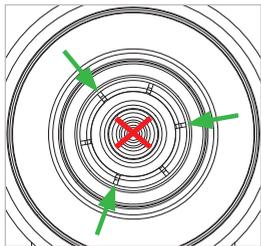

Figure 15
- ▶ Spray once briefly using the small dispensing tube between every second clamping jaw (Figure 15).
**Attention:** The lubricant must not be allowed to enter the gas channel (Figure 15).